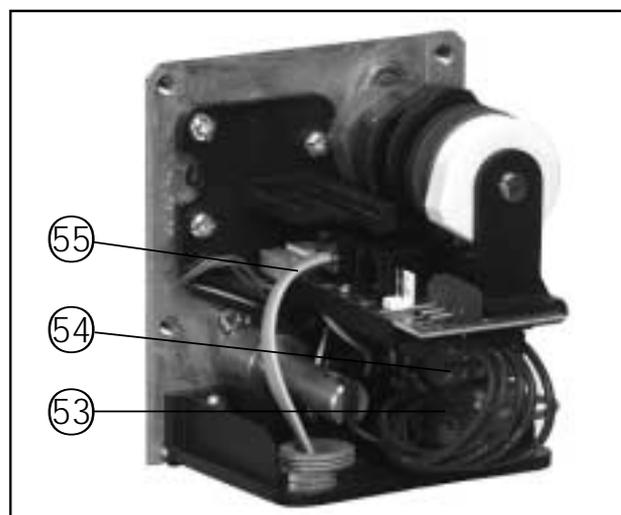

Fig. 8: Connections in door operator
- Connect control unit to door operator according to fig. 8.